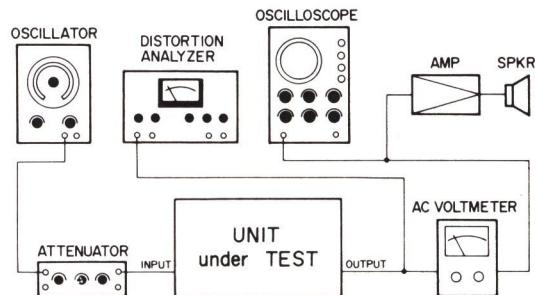

Fig. 7-3
- 1) Connect the measuring instruments as shown in Fig. 7-3.